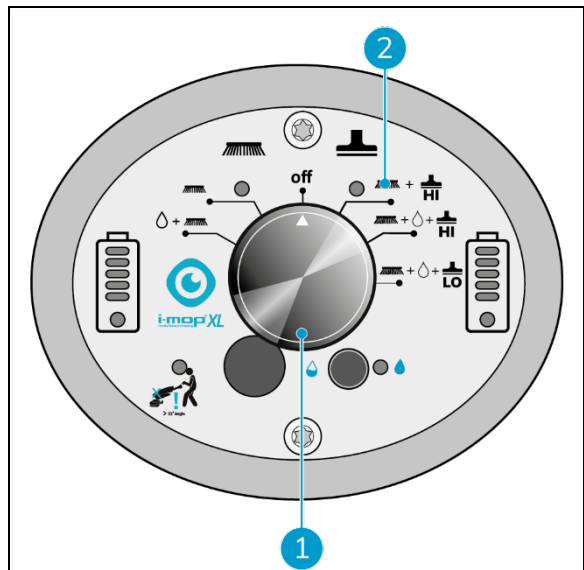

Figure 26
1. Use the i-mop XL Pro main switch (Figure 26, pos. 1) and choose MODE 3 Brush + Dry vacuum (Figure 26, pos. 2).